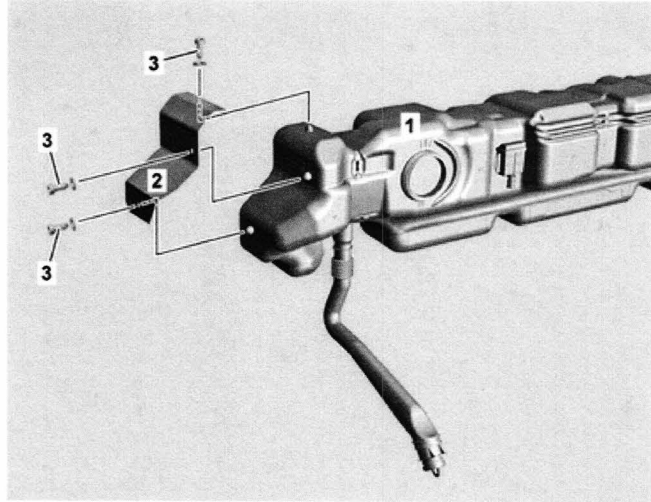

Figure 1
1.  Remove fuel tank (1, Figure 1) refer to WIS: AR47.10-D-4100SD.
2.  Mount heat shield (2, Figure 1) to new fuel tank (1) using screws (3) with washers.
3.  Install new fuel tank (1).